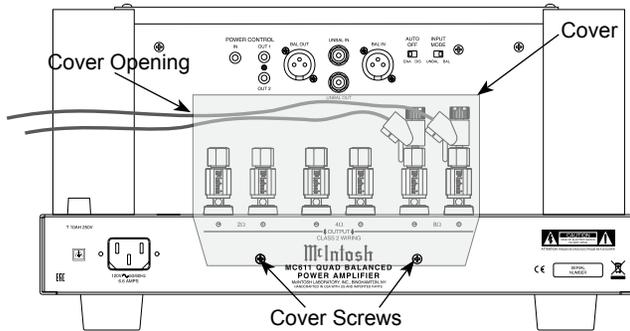

Figure 5 (Inside USA and Canada)
cover opening on the left side. Refer to figure 5.
*Note: The illustration in figure 5 is connections for 8Ω (ohms) Loudspeakers.*
- Attach the Terminal Connections Cover to the MC611 Rear Panel with the previously removed Screws. Refer to figure 5.